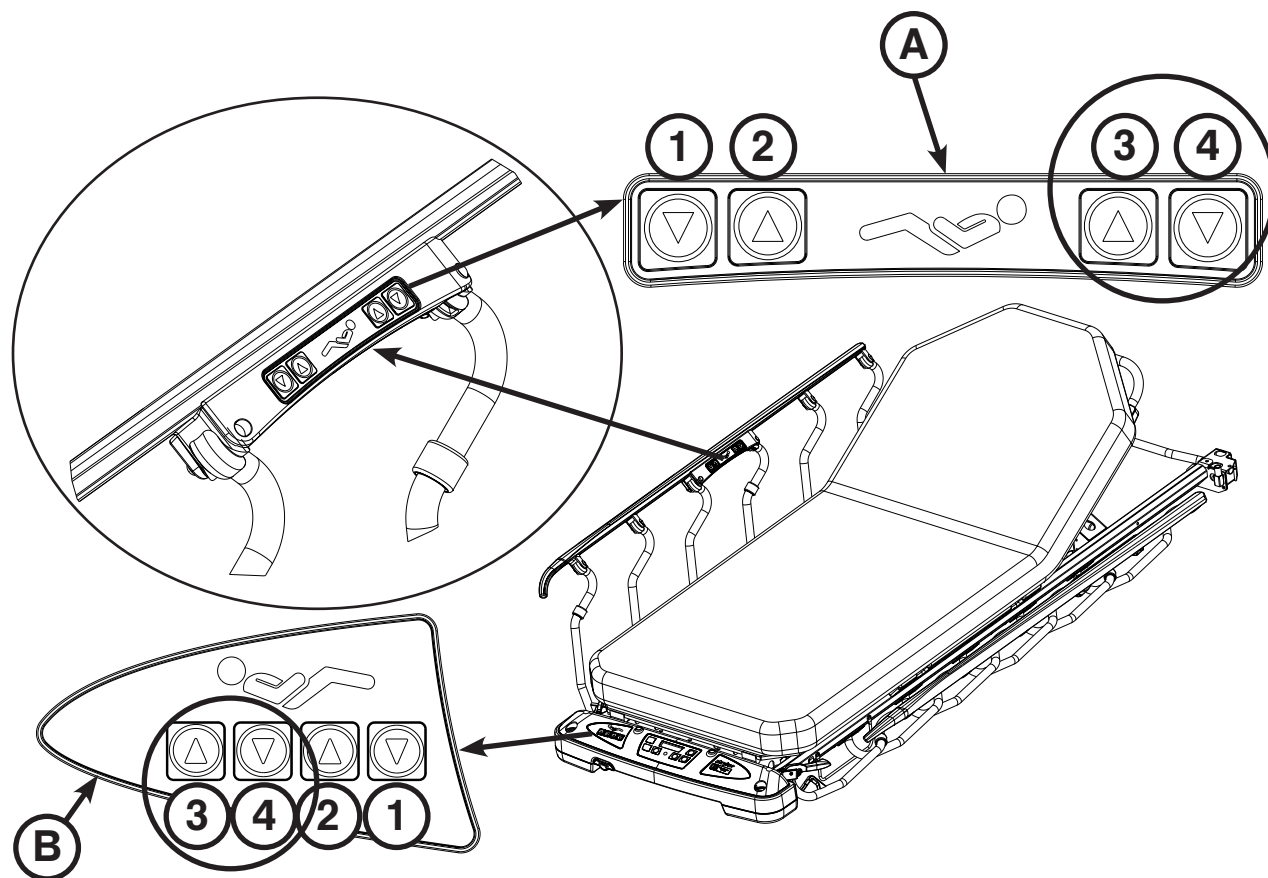

Figure 12: Fowler - Electric Option
To raise the fowler, press the UP (3) button on the patient siderail controls (A) or foot end nursing controls (B) until the fowler has reached the desired angle (between 0 and 70 degrees) as shown in Figure 12.
To lower the fowler, press the DOWN (4) button until the fowler has reached the desired angle (between 70 and 0 degrees) as shown in Figure 12.